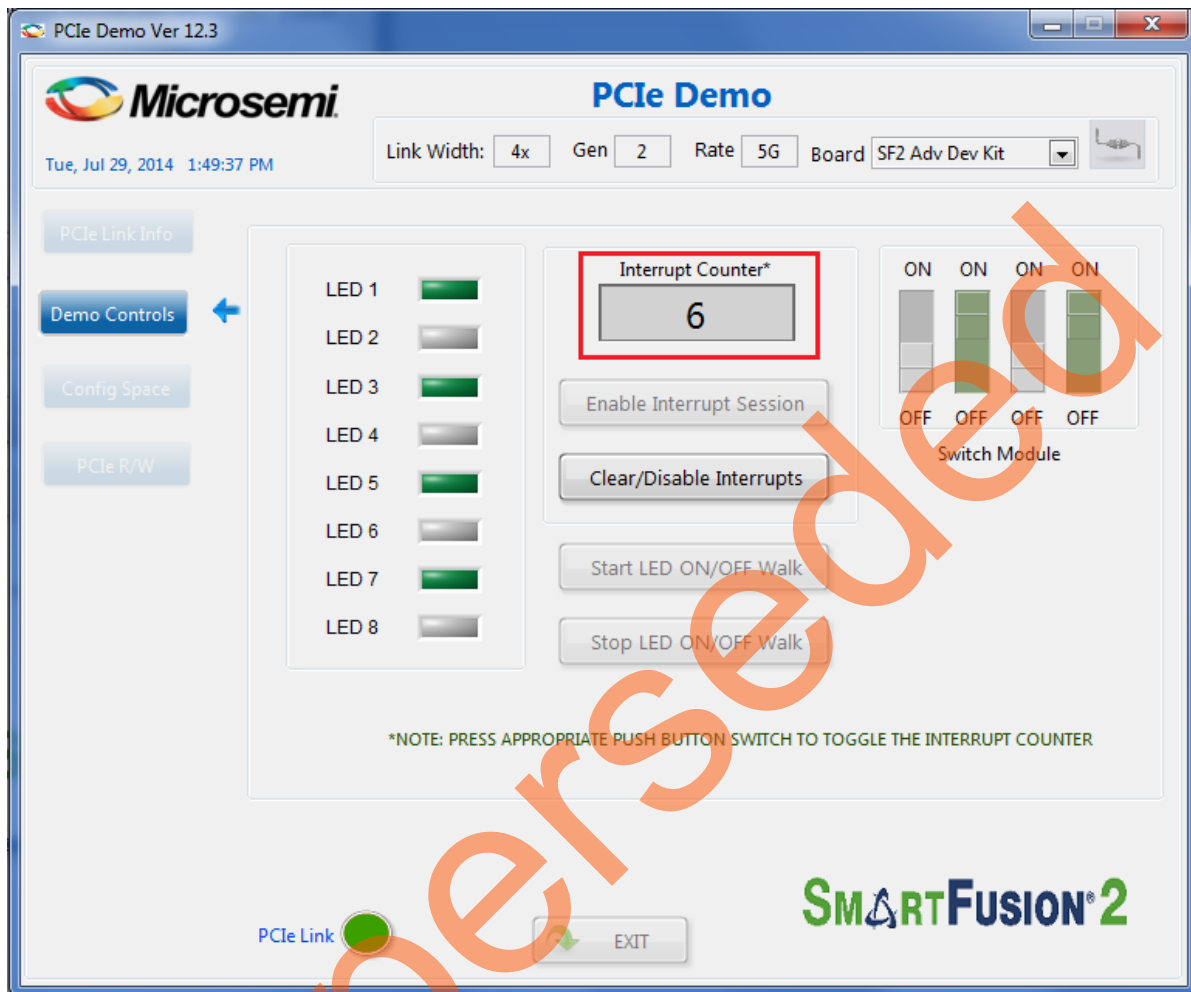

Figure 27 • Interrupt Counter
11. Press the push button **SW1** on the SmartFusion2 Advanced Development Kit Board or **SW4** SmartFusion2 Evaluation Kit Board and observe the interrupt count in the **Interrupt Counter** field, as shown in Figure 27.